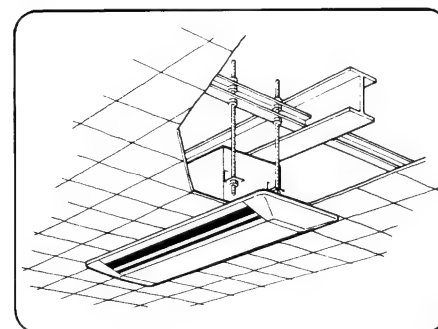

Fig. 7B
**NOTE :** If the ceiling pad is not strong enough to suspend the air conditioner or if it is difficult to use bolt anchors, secure the suspension bolts with the construction member. Refer to Fig.7B.